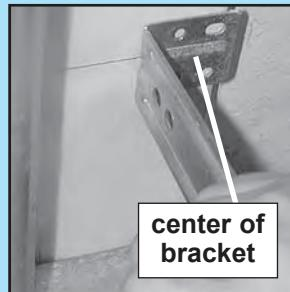

FIG. 4-2
- Center bracket on your mark (Fig. 4-2).
- Fasten each with 2 screws (Fig. 4-2).